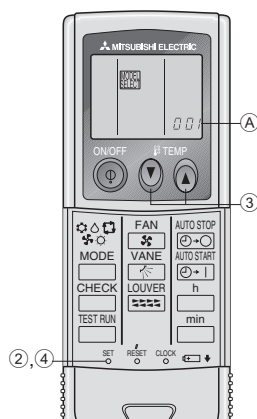

Fig. 6-6
(1) Attach the remote controller holder to the desired location using two tapping screws.
(2) Place the lower end of the controller into the holder.
- (A) Remote controller
- (B) Wall
- (C) Display panel
- (D) Receiver
3) Setting (Fig. 6-6)